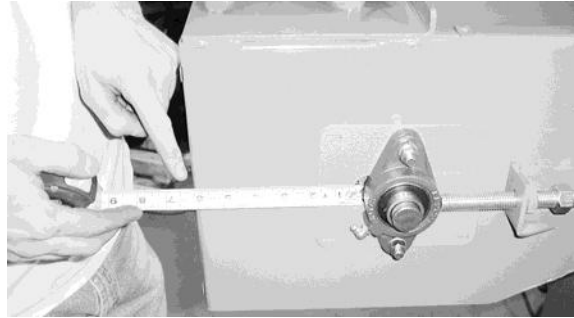

Figure 11: Checking for headshaft skew
- Measure the distance between the bearing and the front edge of the casing (Figure 11) to verify that the headshaft is not cocked.